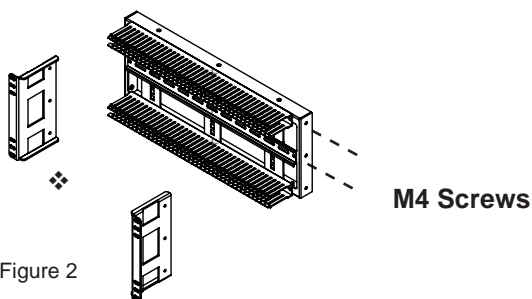

Figure 2
Step 3. Place ear bracket ❖ on right and left side of main panel ◆. You can align your main panel ◆ to three screw holes on ear brackets (Figure 2) .